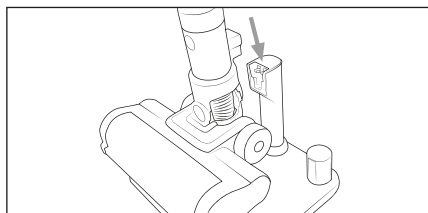

Fig. 6
- ◆ Place the appliance on the appliance cradle ⑰ of the charging station ⑮. Make sure that the charging contacts ⑱ of the appliance and the charging station ⑮ are in full contact. The battery indicator ⑳ starts flashing and the charging process starts (see Fig. 6 and 7).